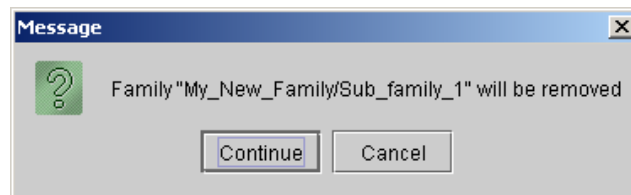

Figure 63: Remove confirmation
- ◆ Click on **Continue** to remove the family/project (Figure 63)